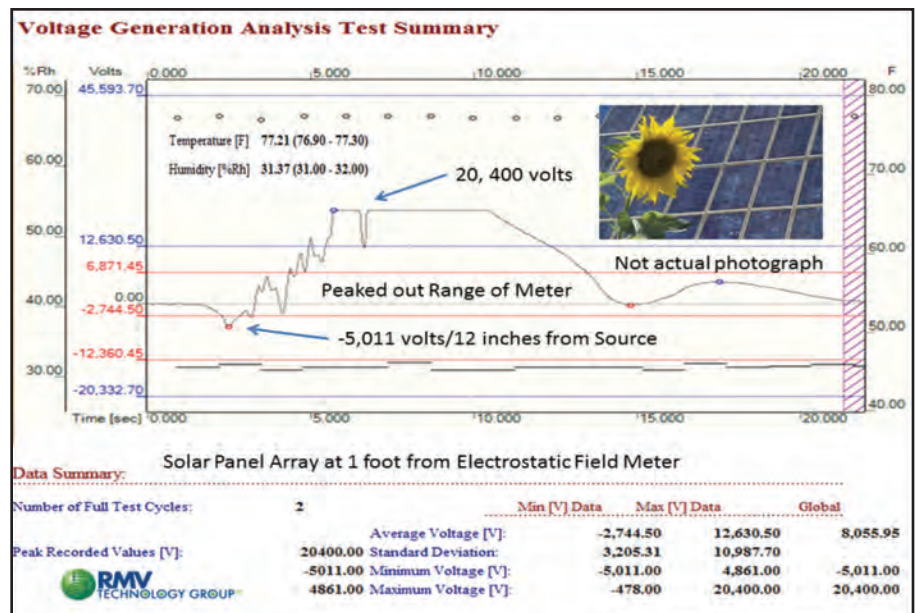

Figure 2
Figure 2 - The trends of the mobile evolution paths, including LTE-Advanced. The 1G systems are already obsolete. GSM has dominated the 2G era and it still functions as a useful base especially for voice communications and for re-farming the services to more spectral efficient 3G and 4G systems.
Moving approximately 1 foot away from the solar panel array produced voltages of 20,400 and -5,011 volts (Figure 2).
**Figure 2:** Blocking of a loop antenna's magnetic field by a metal plate. While the magnetic field is blocked, the loop antenna's near fields can stimulate the metal plate to radiate emissions (other radiation characteristics). If the gap between the loop antenna and metal plate is zero, the H-field is also zero.
The situation, however, is usually quite different on the PCB. The PCB contains metal surfaces. These metal surfaces usually extend over the entire PCB and have ground or supply voltage potential. The gap between these metal surfaces and the PCB traces is normally < 1 mm. These ground surfaces affect the distribution of the trace's electromagnetic field. The effect can best be described by taking a loop antenna as an example. A loop antenna can emit electromagnetic radiation if positioned freely in space. If the loop antenna is placed on a ground surface, this will prevent the emission of electromagnetic radiation. This is because the corresponding conductive metal surfaces block the magnetic field in the opening of the loop an account of current / field displacement effects (skin effect). The loop antenna's magnetic field can no longer build up around the antenna and is practically no longer present. Radiated emissions from the loop antenna are thus reduced considerably (Figure 2).